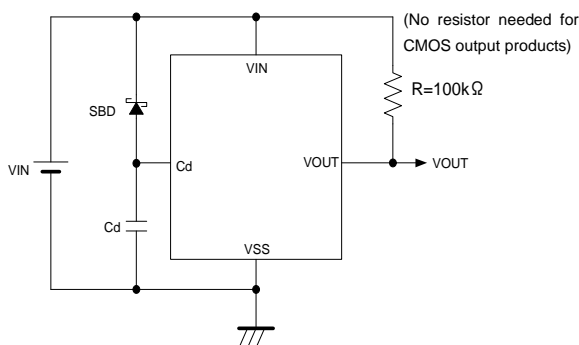

Figure 3: Circuit example with the delay capacitance pin (Cd) connected to a schottky barrier diode
5. When there is a possibility of which the input pin voltage falls rapidly (e.g.: 6.0V to 0V) at release operation with the delay capacitance pin (Cd) connected to a capacitor, use a schottky barrier diode connected between the V_{IN} pin and the Cd pin as the Figure 3 shown below.